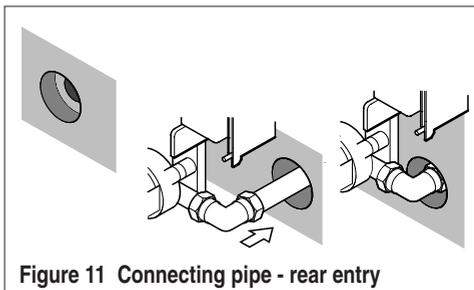

Figure 11 Connecting pipe - rear entry
**5.11 Rear Entry.** If the pipework is to enter from the rear, you must cut away the wall from around the pipe to allow room for the nut on the compression elbow to be recessed into the wall - see Fig. 11. The pipework must be connected to the elbow BEFORE the shower is fitted to the wall; if you were to fix the pipe in place first, you would not be able to get a spanner onto the compression nut.